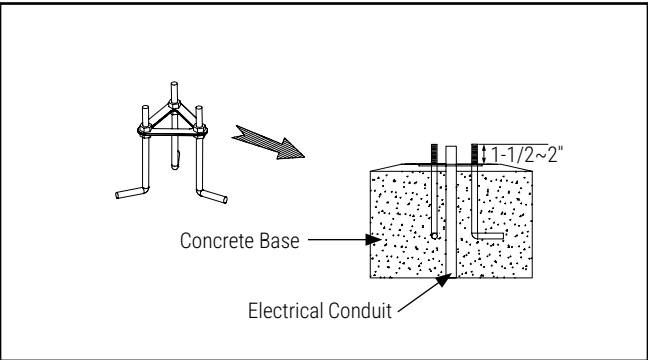

Figure 2.
2. Install 3 anchor bolts into concrete as per attached Fig. 2, having at least 1-1/2~2" protruding from concrete with threads free and clear of debris and dirt (Electrical conduit are reserved in the concrete center).